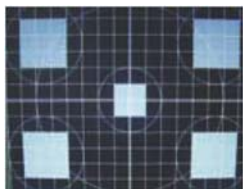

Fig. 1
2. Turn on the Timing/pattern generator. See Fig.1